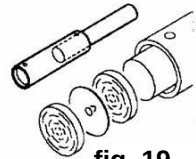

fig. 19
- Slide the Pushing Rod into the Whipping Pipe and push-out the Inlet Part, the 13 Whipping Discs and 12 Intermediate Discs (resp. the whole Whipping Column). (fig. 19)